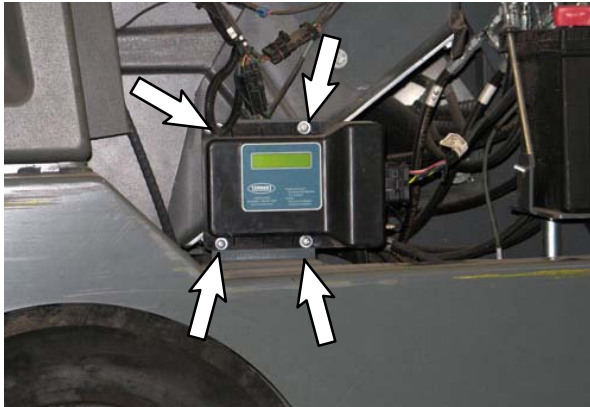

FIG. 2
2. **Older model machines without fan bracket:** Install the telemetry bracket (10) onto the machine. (Fig. 2)
3. **Older model machines without fan bracket:** Use four M6 hex screws (3) and four flat washers (2) to install the telemetry module (1) onto the telemetry bracket (10). (Fig. 2)